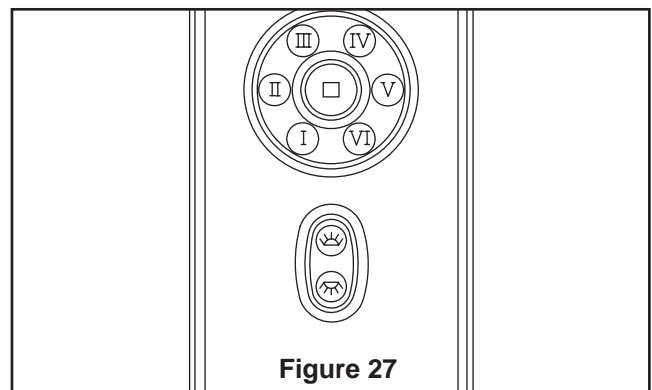

**Figure 26**
2. To make fan operational, install 23A/12V battery (included) in hand-held remote transmitter, with fan power off, arrange code switches to desired code setting. Then follow the remote code setting process. (If not used for long periods of time, remove battery to prevent damage to transmitter). Store the remote away from excessive heat or humidity (Figure 26).